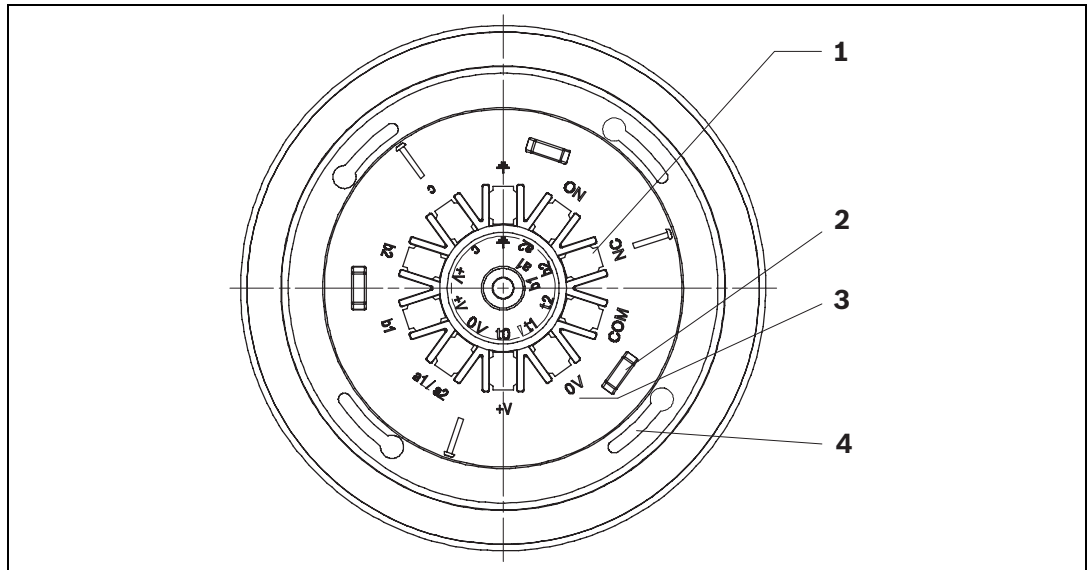

Figure 3.5 Plan view base
Wire up the LSN base according to the labeling in the outer ring (see Figure 3.5 (3)).